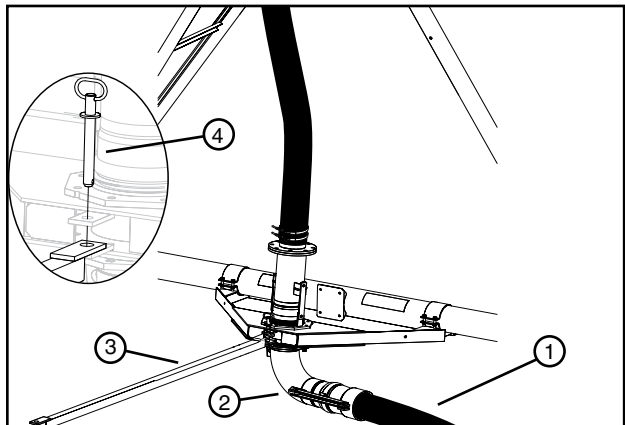

Figure 60-3 1. Hose 2. Elbow Inlet (Tee Inlet Not Shown) 3. Tongue 4. Torque Pin
- Disconnect the hose from the inlet tube at the elbow. See figure 60-3
- Attach the tongue to the hose pull frame with torque pin. See figure 60-3.